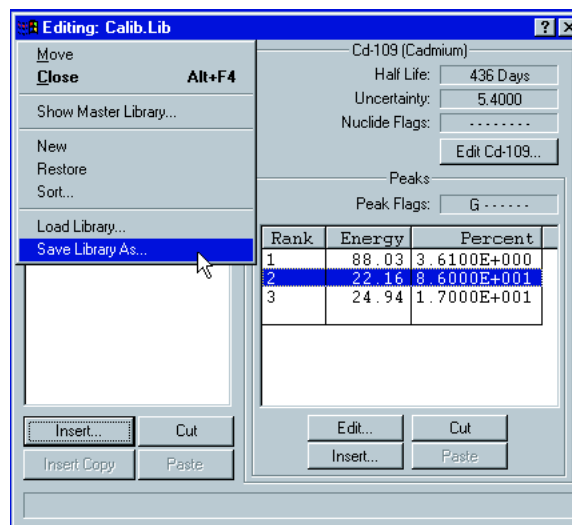

Fig. 29
2.4 Since we are interested in Cs-137 and a few other naturally-occurring radionuclides, we may delete several of the isotopes used for calibration. Save this library with a new name that represents the type analysis it will be used for. Click the **Windows icon** in the upper left-hand corner of the editor and choose **Save Library As** (Fig. 29). Save the library with a representative name — in this example we call the library "PondB".